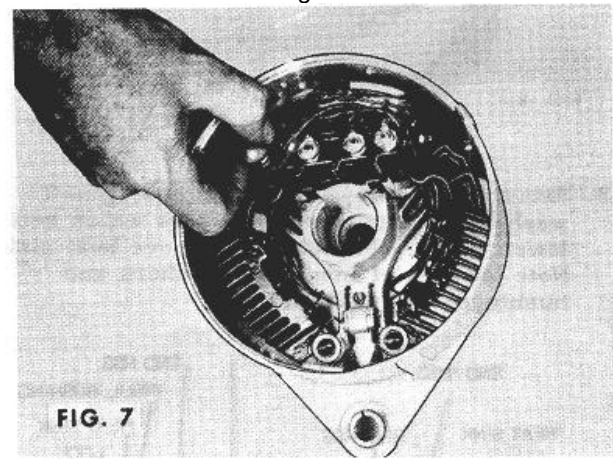

Fig. 7
9. Remove nuts from positive and negative output terminal bolts and remove the bolts. Note the location of the red and black regulator leads on the heat sinks. (See Figure 7.)
10. Remove three hex head screws and remove capacitor connected between the heat sinks. (See Figure 7.)